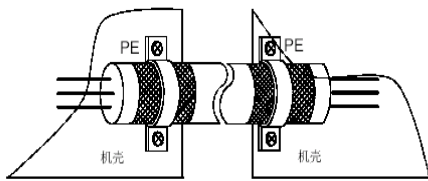
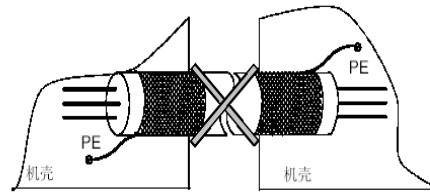

Fig. A-4 Correct shielded grounding
Fig. A-5 Incorrect shielded grounding
Normally control cable should be a shielded cable, and shielded metal mesh should be connected to metal cabinet by 360° ring type clamp fixed. Fig. A-4 shows the correct connection. Shielded connection shown in Fig. A-5 is wrong.
3) Motor cable must use shielded cable, and the best to have metal interlocked conduit, or double layers of metal mesh shielded cable. The 360° ring type clamp (such as Fig. A.4) must be used as metal cable clamp to fix the shielded layer of motor cable at inverter side to the back board of cabinet. There are two fixing locations: one is to close the inverter (the best is less than 15 cm), other location is to fix it on the ground block. 360° ring type connection should be taken to connect the motor metallic case